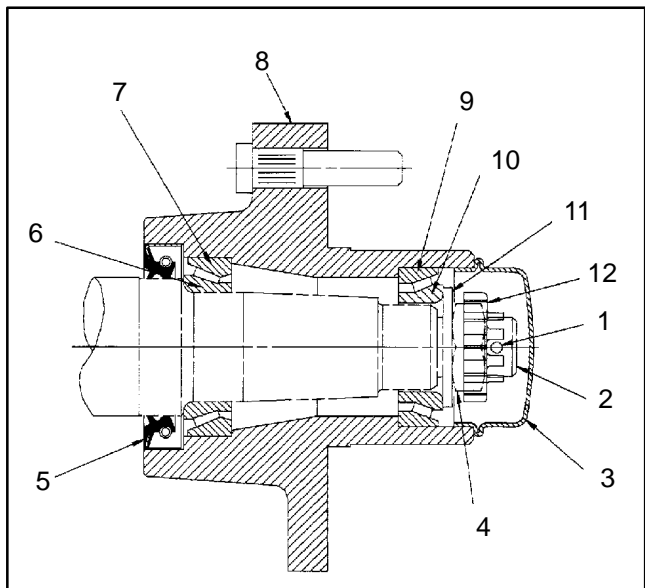

Figure 6
2. Remove dust cap (16) from the end of the wheel spindle.
3. Remove cotter pin (15), slotted nut, and washer (18). Slide wheel off of the spindle shaft.
4. Pull seal (22) out of wheel hub (9).
5. Remove bearings (11 and 21) from both sides of the wheel hub (9). Clean bearings in solvent. Make sure the bearings are in good operating condition. Clean inside of the wheel hub (9). Check bearing cups (10 and 20) for wear, pitting, or other noticeable damage. Replace worn or damaged parts.
6. If bearing cups (10 and 20) were removed from the wheel hub (9), press them into the hub until they seat against the shoulder.
7. Use No. 2 general purpose lithium base grease containing EP additive. Pack both bearings (11 and 21) with grease. Install bearing (21) into the cup (20) on inboard side of wheel hub.
8. Lubricate the inside of the new lip seal (22) and press it into the wheel hub.
9. Pack inside of wheel hub with some grease (not full). Install remaining bearing (11) into bearing cup (10).
10. Slide wheel onto the spindle shaft and secure it in place with the flat washer (18), nut (17), and retainer nut (50). **Do not tighten nut or install the cotter pin.**
11. Adjust preload on the wheel bearings (Fig. 6).